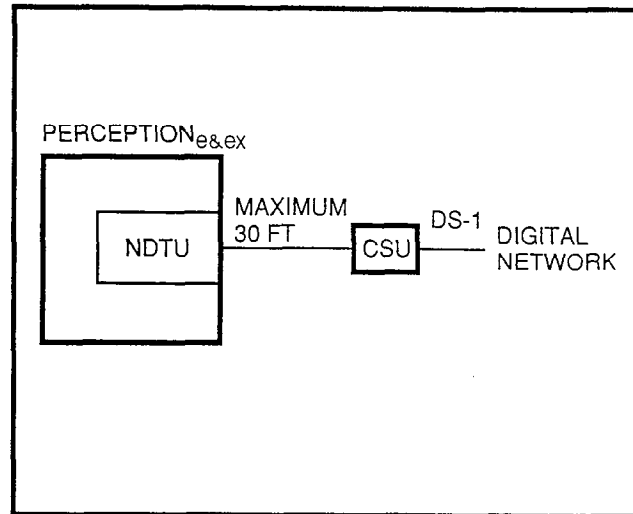

FIGURE 1—DS-1 CONNECTION TO DIGITAL NETWORK
- 1) A T1/DS-1 interface (span) can be connected to the network, and can provide up to 24 (in units of 4) FX, DID, TIE, and Loop Start or Ground Start CO trunks in any combination. A CSU is required for this configuration (see Figure 1).